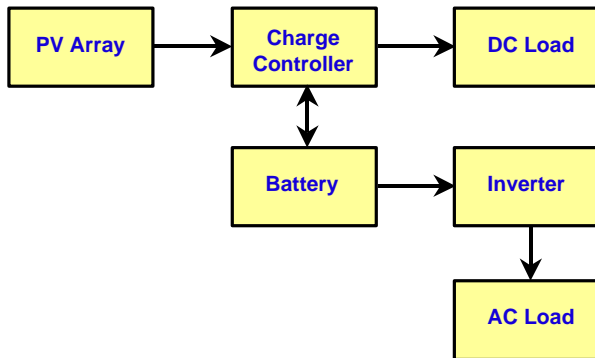
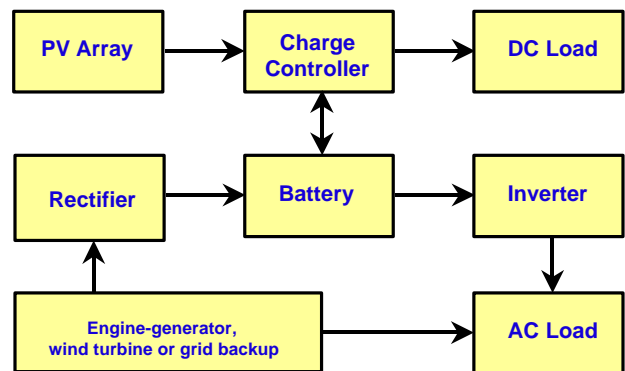

Figure 5. Diagram of stand-alone PV system with battery storage powering DC and AC loads.
Figure 6. Diagram of photovoltaic hybrid system.
Stand-alone PV systems are designed to operate independent of the electric utility grid, and sized to supply certain DC and/or AC electrical loads. These types of systems may be powered by a PV array only, or may use wind, an engine-generator or utility power as an auxiliary power source in what is called a *PV-hybrid system*. Batteries are used in most stand-alone PV systems for energy storage. Figure 5 shows a diagram of a typical stand-alone PV system powering DC and AC loads. Figure 6 shows how a typical PV hybrid system might be configured.
A. Batteries are often used in PV systems for the purpose of storing energy produced by the PV array during the day, and to supply it to electrical loads as needed (during the night and periods of cloudy weather). Other reasons batteries are used in PV systems are to operate the PV array near its *maximum power point*, to power electrical loads at stable voltages, and to supply surge currents to electrical loads. In most cases, a *battery charge controller* is used in these systems to protect the battery from overcharge and overdischarge (Figure 5).